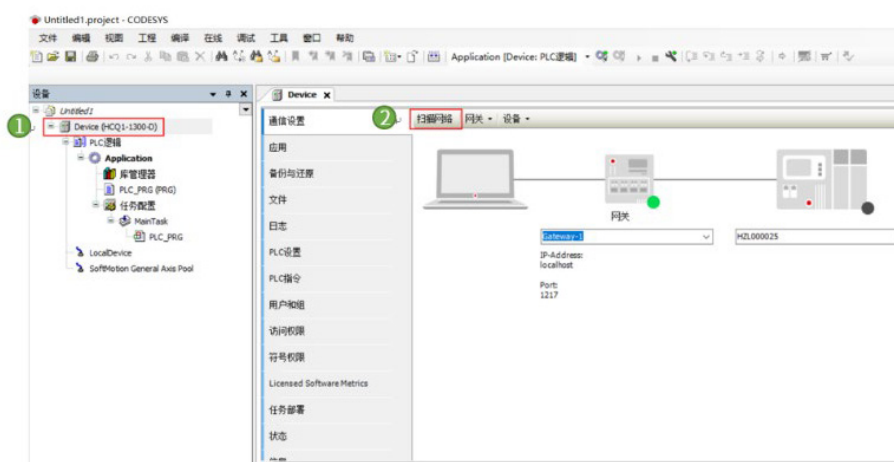

Figure 13-5 Internet connection
2. Double-click [Device], as shown in Figure 13-5, and click [Scan Network].